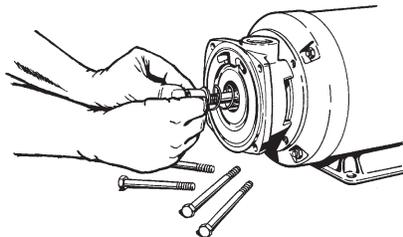

Figure 4-15
- h. Align the keyway slot in the hub assembly with the key in the motor shaft, refer to Figure 4-15.